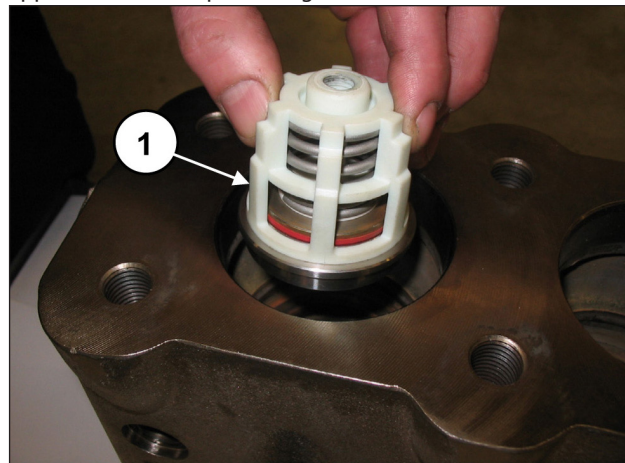
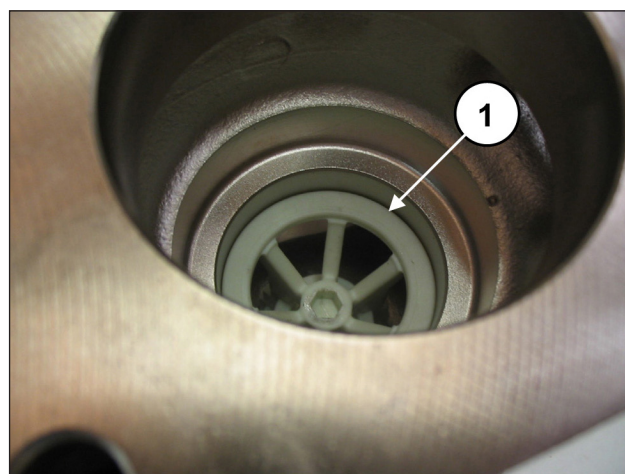

Fig. 119
Fig. 120
Insert the suction-outlet valve unit (pos. ①, Fig. 119) and then the spacer (pos. ①, Fig. 120).
The complete valve unit must be driven fully home and should appear as shown in pos. ①, Fig. 120.